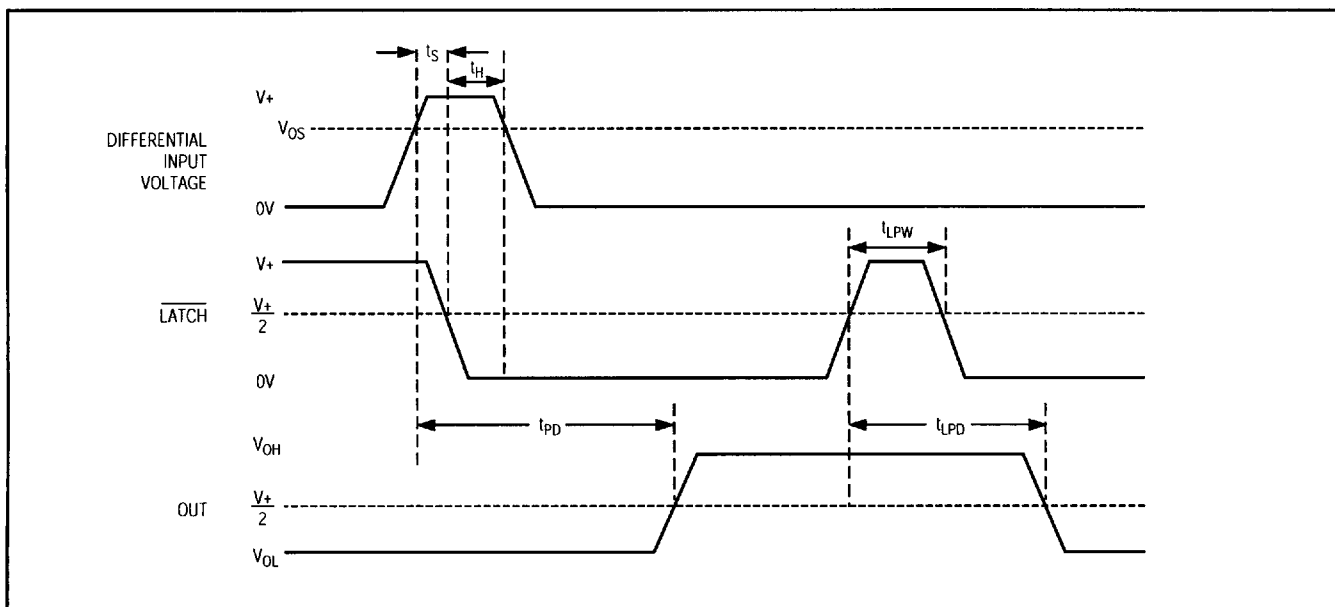

Figure 2. MAX941 Timing Diagram with Latch Operator
- Note 8:** Parameter is guaranteed by design and specified with V_{OD} = 5mV and C_{LOAD} = 15pF in parallel with 400μA of sink or source current. V_{OS} is added to the overdrive voltage for low values of overdrive. See Figure 2.
- Note 12:** Applies to the MAX941 only. Comparator is active with LATCH pin driven high and is latched with LATCH pin driven low. See Figure 2.
The MAX941 includes an internal latch that allows storage of comparison results. The \overline{LATCH} pin has a high input impedance. If \overline{LATCH} is high, the latch is transparent (i.e., the comparator operates as though the latch is not present). The comparator's output state is stored when \overline{LATCH} is pulled low. All timing constraints must be met when using the latch function (Figure 2).